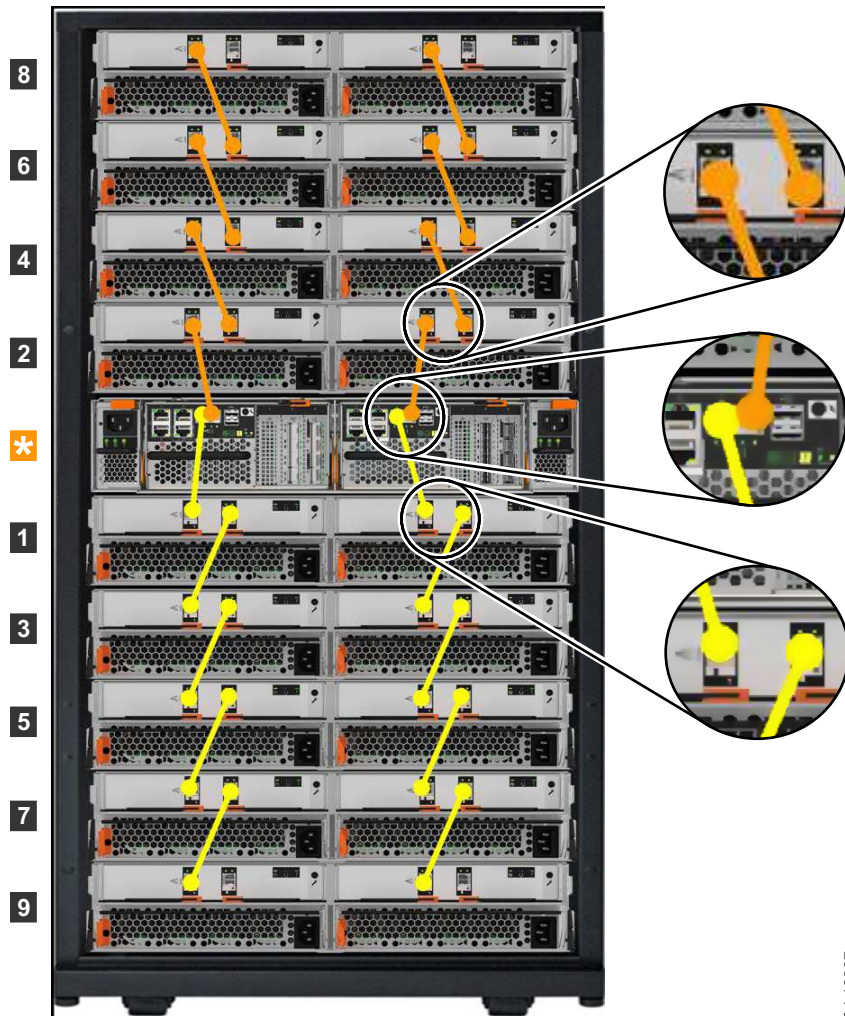

Figure 21. Connecting the SAS cables
1. Using the supplied SAS cables, connect the control enclosure to the expansion enclosure at rack position 1, as shown in Figure 21 on page 24.
2. To add a second expansion enclosure chain to the control enclosure, use the supplied SAS cables to connect the control enclosure to the expansion enclosure at rack position 2. Refer to Figure 21 for an example.
3. If additional expansion enclosures are installed, connect each one to the previous expansion enclosure in a chain; use two Mini SAS HD to Mini SAS HD cables, as shown in Figure 21.